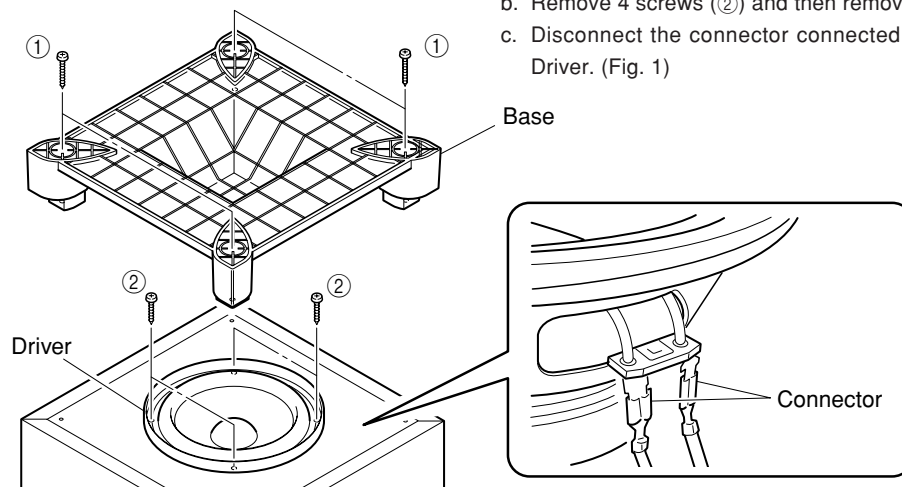

Fig. 1
- Remove 4 screws (①) and then remove the Base. (Fig. 1)
- Remove 4 screws (②) and then remove the Driver. (Fig. 1)
- Disconnect the connector connected to the terminal of the Driver. (Fig. 1)